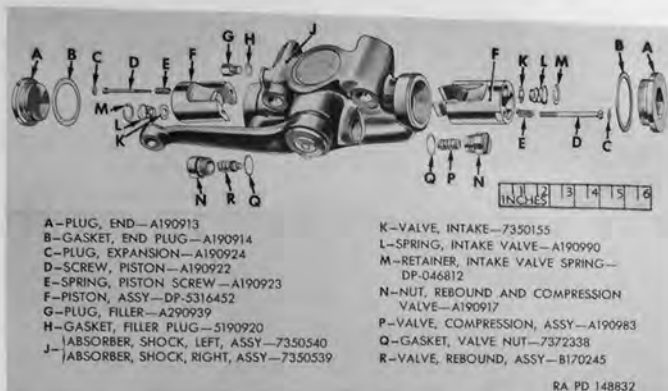

Figure 210. Shock absorber components.
Note. Key letters noted in parentheses are in figure 210.
a. Cleaning.—Wash all shock absorber parts in dry-cleaning solvent or volatile mineral spirits. Wipe small parts dry, and blow inside of cylinder and internal passages in body dry with compressed air. Make sure internal passages are thoroughly cleaned. Shock absorber components are shown in figure 210.
- (1) *Body.*—Check shaft and bushings in body for wear by moving shock absorber arm sideways. Inspect cam on shaft for galled or worn condition. Examine cylinder bore for roughness or scoring. If any of the above conditions are evident, replace the complete shock absorber assembly.
- (2) *Piston.*—Insert each piston half in cylinder in operating position (cam clearance at top) and check clearance between piston and cylinder wall. If clearance is not within limits specified (par. 354), a new piston assembly must be selected which will provide clearance within these limits. Examine piston for evidence of scoring or other damage. Check thrust button at inner end of each piston half for roughness or evidence of wear. Make sure antirotation spring installed under thrust button on rebound half of piston is not bent. If any wear or damage is evident, replace piston assembly.
- (3) *Rebound and compression valves.*—The only inspection that can be made on rebound and compression valves is to make a visual inspection to see that valves are securely assembled and appear to be in good condition. If there is any doubt as to whether valve springs have become weakened, replace with new valve assemblies. When obtaining new valves, make
Note. Key letters noted in parentheses are in figure 210 unless otherwise indicated.